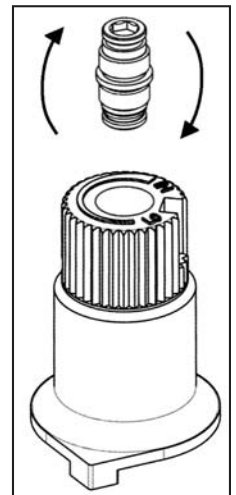

Figure 20: Flip valve screw.
- e) Flip the screw (refer to Figure 20).